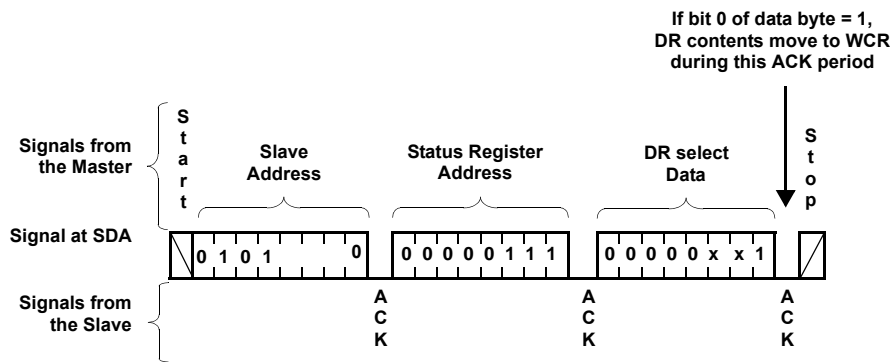

FIGURE 6. STATUS REGISTER WRITE (USES STANDARD BYTE WRITE SEQUENCE TO SET UP ACCESS TO A DATA REGISTER)
- 1. Load the status register (using a write command) to select the row** (See Figure 6)